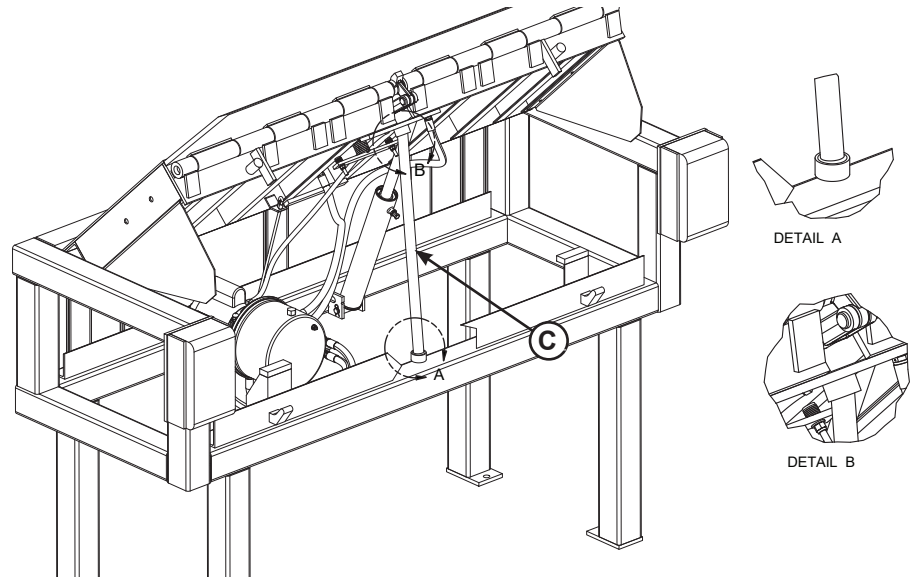

Figure 22
Whenever maintenance is to be performed under the dock leveler platform, support the platform with maintenance prop (C). Position the maintenance prop in the platform and frame receivers, while staying clear of the lip. See **Figure 22**. The lip will fold down after the platform has rested on the maintenance prop.